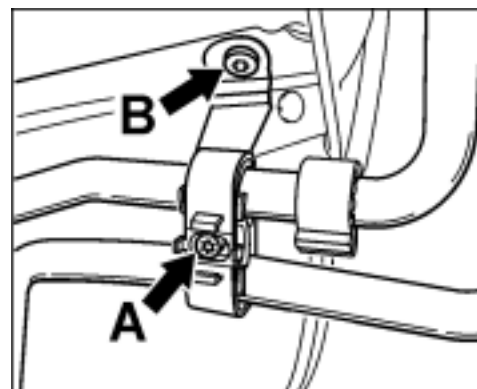

Figure 2
- 4.1 Unscrew the screw on the fixing clip (⇒ *Figure 2-*, **Arrow A-**) for securing the lines to the holder.
- 4.2 Unscrew the screw on the holder (⇒ *Figure 2-*, **Arrow B-**) for securing the holder to the body and remove the holder.